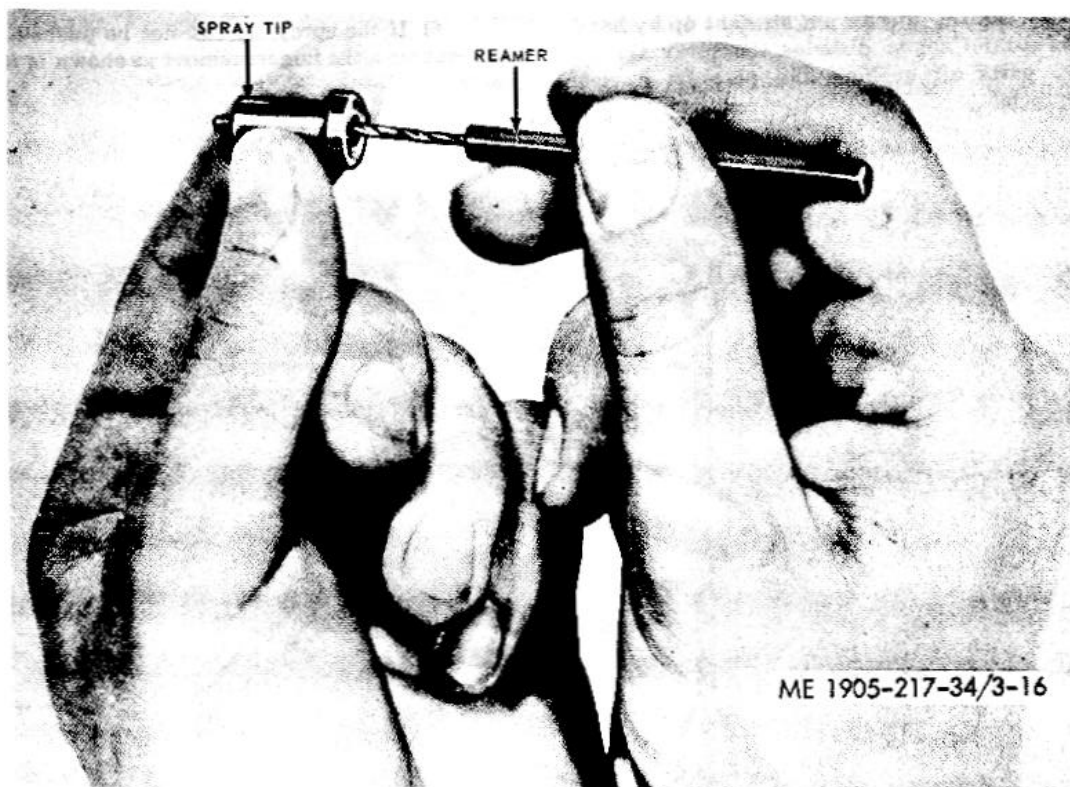

Figure 3-16. Reaming fuel injector spray tip.
(1) Wash all parts with clean fuel oil or cleaning solvent and dry with clean, filtered compressed air. Do not use waste or rags. Clean all passages, drilled holes and slots in all injector parts.
(2) Remove carbon deposits from spray tip with reamer (fig. 3-16).